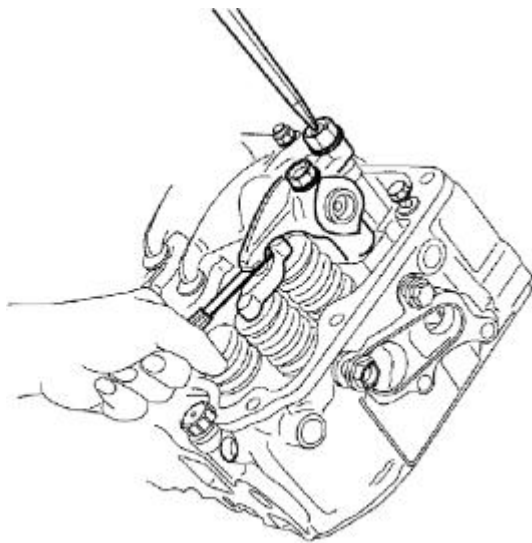

Fig. 73: Valve lash check and adjustment
- b. Insert a feeler gauge between the tip of the rocker arm and the valve bridge as shown in figure 73. The gap should be 0.012 in (0.3mm). If the gap is not to spec, loosen the valve lash lock nut and adjust the valve adjusting screws. Once within spec, tighten the valve lash lock nut to 16 ft-lb.